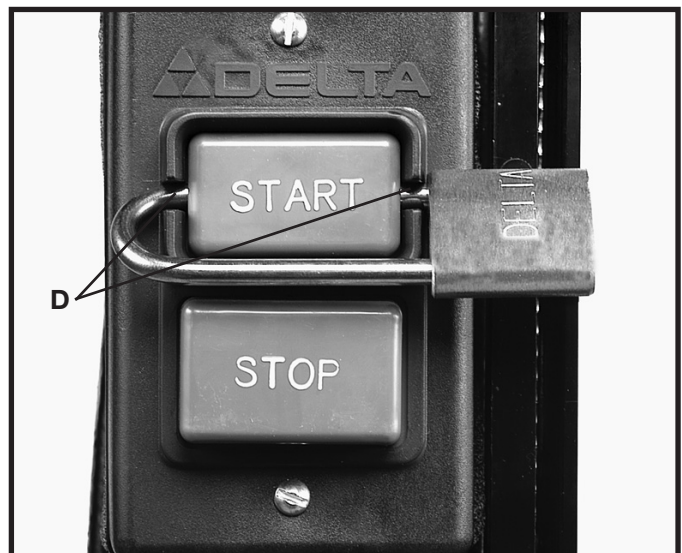

Fig. 16
IMPORTANT: When the band saw is not in use, the switch should be locked in the "OFF" position using a padlock (C) Fig. 16, (with $\frac{3}{16}$ diameter shackle) through the two holes (D) in the switch plate, as shown in Fig. 16. **NOTE:** Padlock shown is available as accessory Model 50-325.